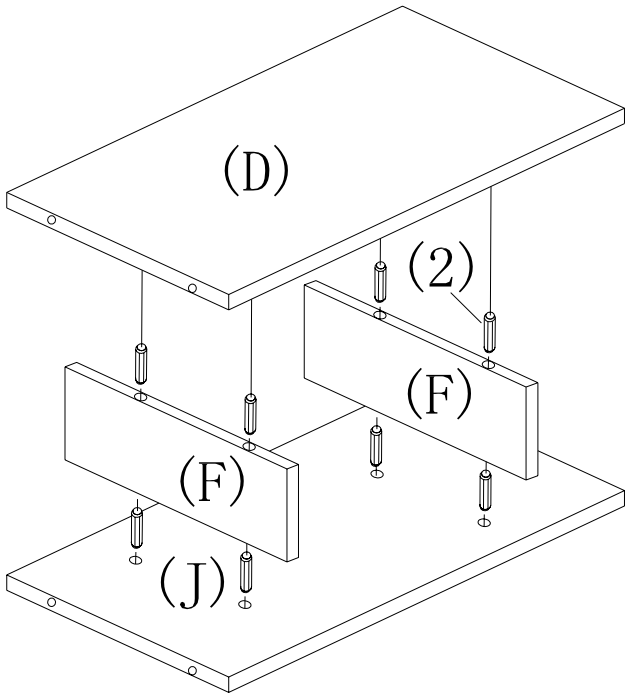

FIGURE 1
3. INSERT WOOD DOWELS (2) INTO PREDRILLED HOLES ON EDGES OF DIVIDERS (F) AND FIT INTO CORRESPONDING HOLES ON UNDERSIDE OF UPPER FIXED SHELF (D) AND UPSIDE OF LOWER FIXED SHELF (J). (AS SHOWN IN FIGURE 1)